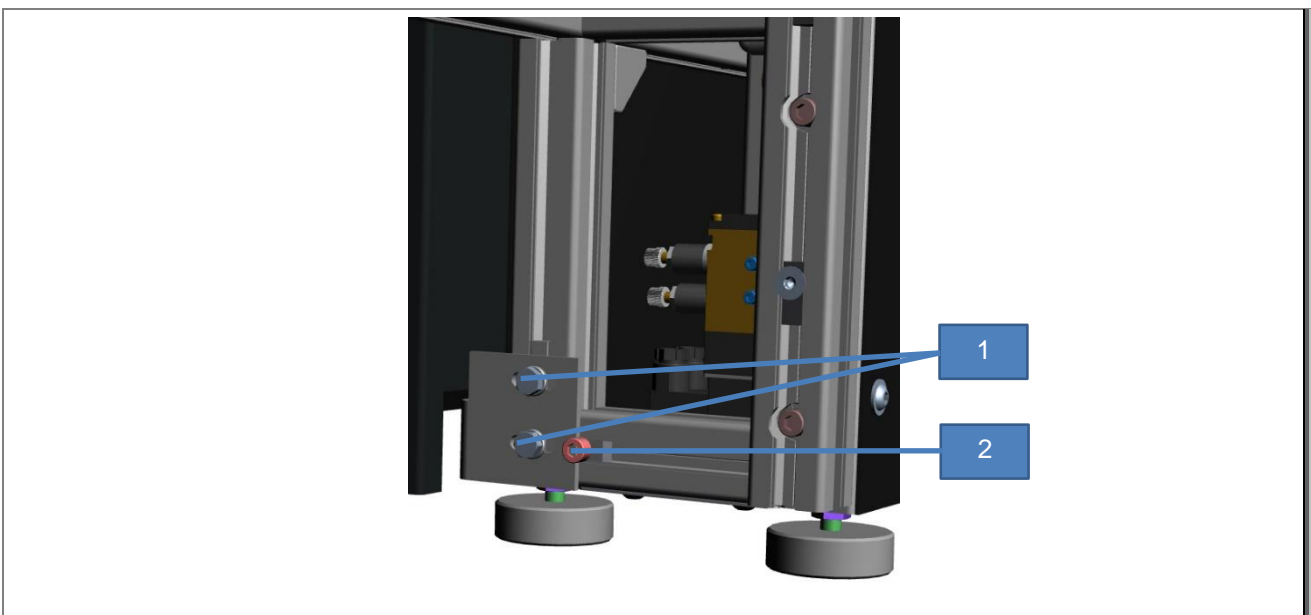

Fig. 4: Aligning the CSi/d Autoloader
6. Using the brackets, screw the CSi/d Autoloader to the analyzer. The CSi/d Autoloader can be adjusted in a horizontal direction using the slotted holes on the brackets (1) (see Fig. 4: Aligning the CSi/d Autoloader).
7. Press the locking screw (2) against the brackets and screw it tight. This prevents the position shifting if you need to disconnect the CSi/d Autoloader from the analyzer (see Fig. 4: Aligning the CSi/d Autoloader).